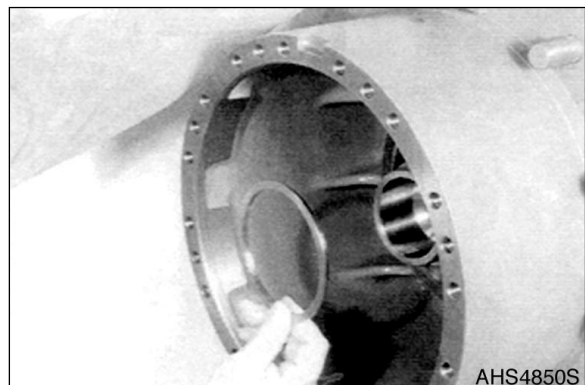

Figure 109
NOTE: If the required rolling resistance is not obtained, correct using a corresponding spacer, see Figure 109.
1. Screw installer (S) over the threads of the hub carrier.
2. Assemble the spacer determined in Figure 109.